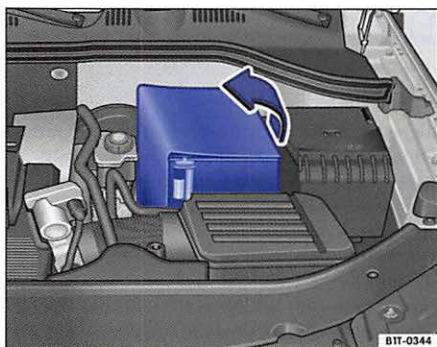

Fig. 157 In the engine compartment: Open the sleeve covering of the vehicle battery.
- *With a soft cover:* Open the cover to the side $\Rightarrow$ fig. 157.